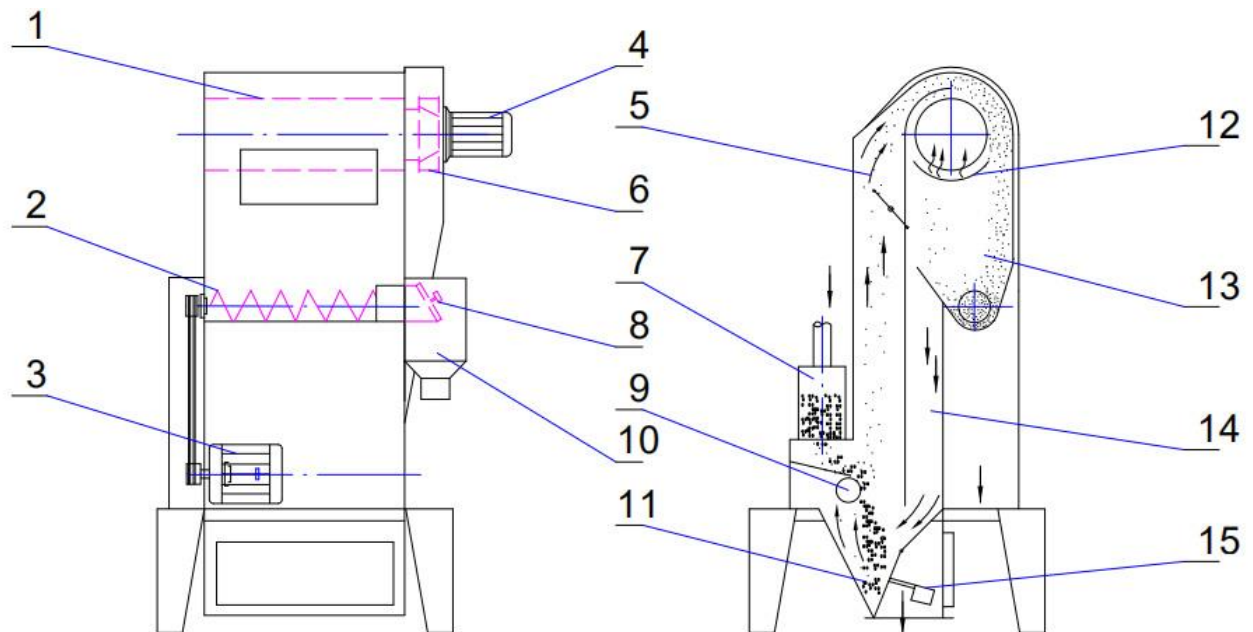

Fig.1
II. Structural features (Fig.1)
III. Working principle (Fig.1)
(1) In order to ensure that the machine is free of dust, its feed port must be connected with supplementary air suction, and its air volume needs to see Table 1.
(2) When the machine is used alone, a buffer box must be installed before the feed port (within 0.5m) to slow down the falling force of materials. During installation, the reserved holes in the floor are shown in Figure 1. See Fig. 5 when it is used with the vibrating screen of our factory.